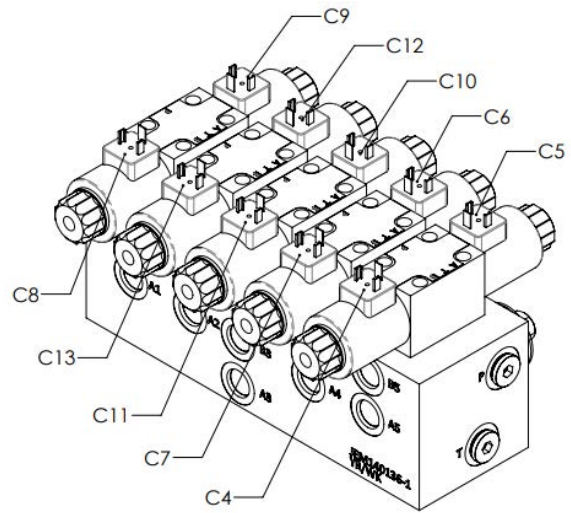

Figure 6: Layout of harness connectors to valves
- b. *Figure 6* shows where each connector should be connected to the valve block.
- i. Be sure to note the orientation of the valve block in *Figure 6*. Ensure that the connectors are connected in the correct locations.